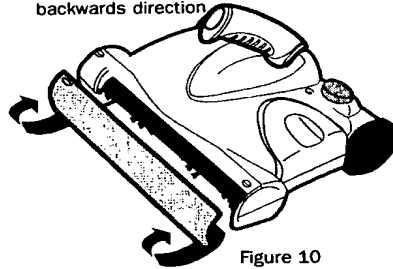

Figure 10
3. Remove the visor to clean the front surface of stairs* (fig.10).